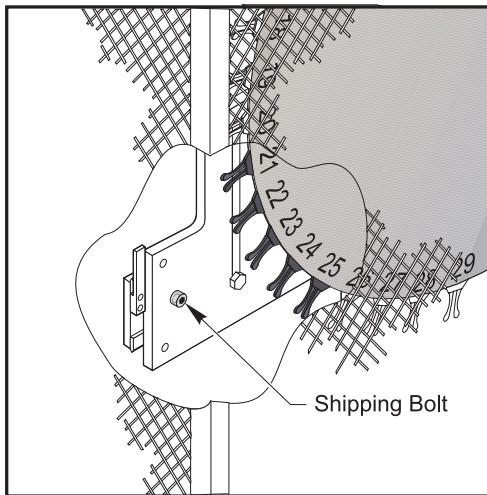

Figure 3.8-5.
1. Remove the tool changer's shipping retainer bolt. Refer to Figure 3.8-5.